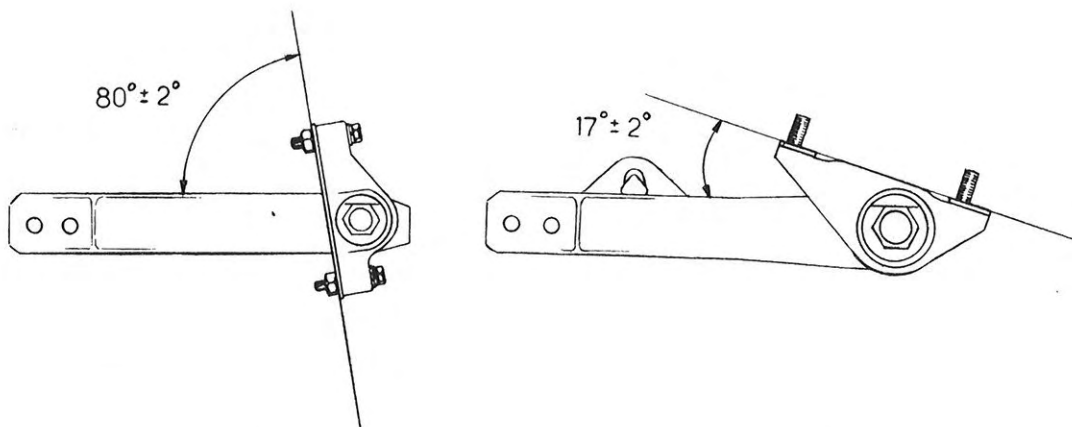

Fig. 20. Angles between upper and lower spring arms and their brackets
3. Attach brackets to spring arm. Note that when the two end nuts are tightened and locked the angle between spring arm and brackets should be 80° , see Fig. 20.
3. Attach brackets to spring arm. Note that when the two end nuts are tightened and locked the angle between spring arm and brackets should be 17° , see Fig. 20.